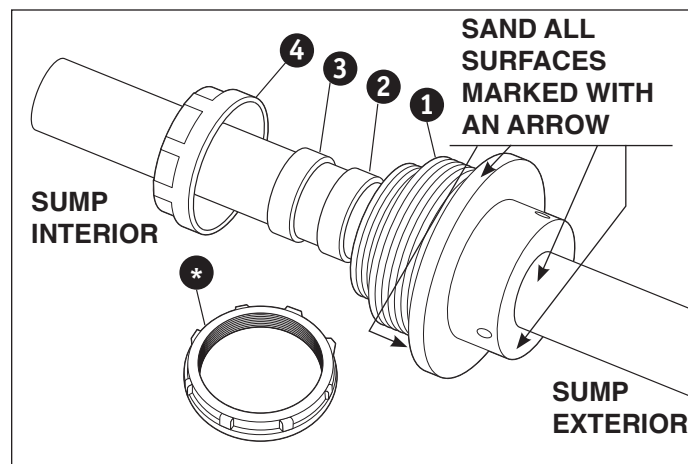
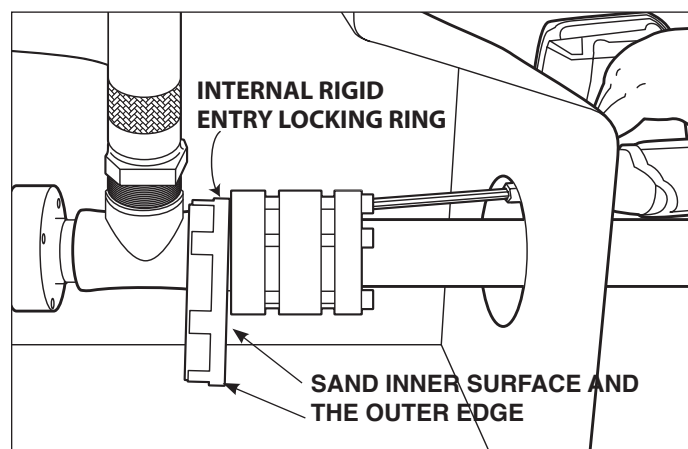

Figure 22-1
Figure 22-2
Assemble the rigid entry components on the DoubleTrac® Pipe entering the sump in the following order (Figure 22-1).
the inside of the DoubleTrac® entry fitting and all the surfaces of the DoubleTrac entry fitting marked with an arrow (Figure 22-1 and Figure 22-2).
5. Assemble rigid entry fitting components on DoubleTrac® pipe (see Figure 22-1).
6. Assemble DoubleTrac® fitting according to Section 8. Ensure the internal locking ring is placed on the ancillary equipment (see Figure 22-2) prior to attaching the DoubleTrac fitting to equipment.